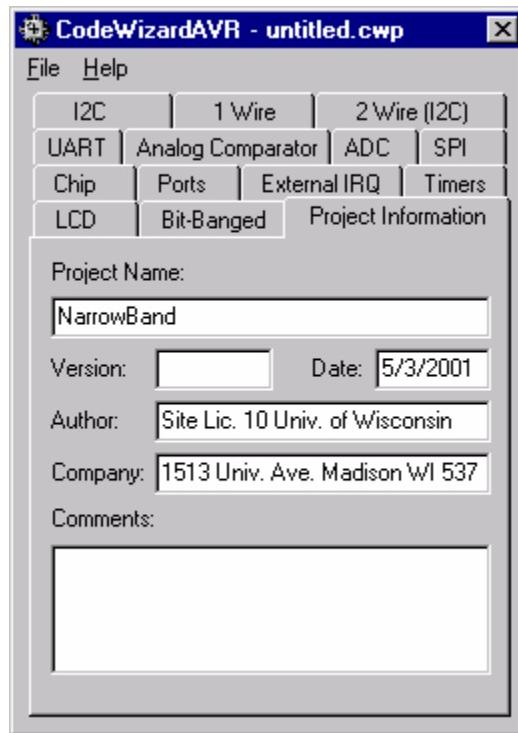

Figure 6: Project Name
8) Name the Project “NarrowBand” as shown in Figure 6